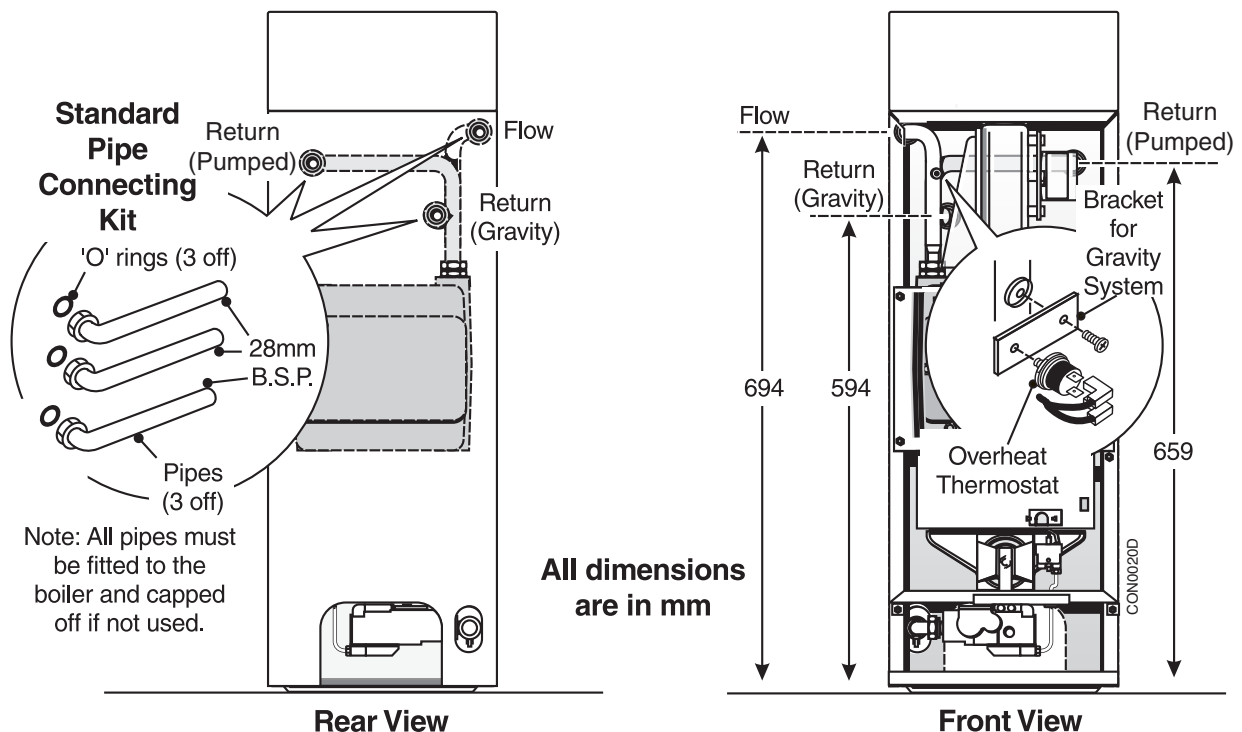

Fig. 19
- 1. On Gravity DHW systems check that the overheat thermostat is fitted correctly. See Fig. 19, page 19.